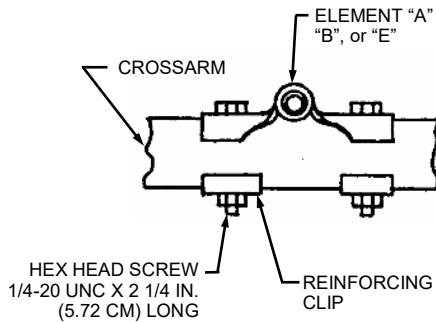

FIGURE 3 ANTENNA MOUNTING
- The parasitic elements are mounted onto the crossarm at its match-marked location with 1/4-20 x 2 1/4" long hex head screws, as shown in Figure 3. Use a reinforcing clip at each screw location.